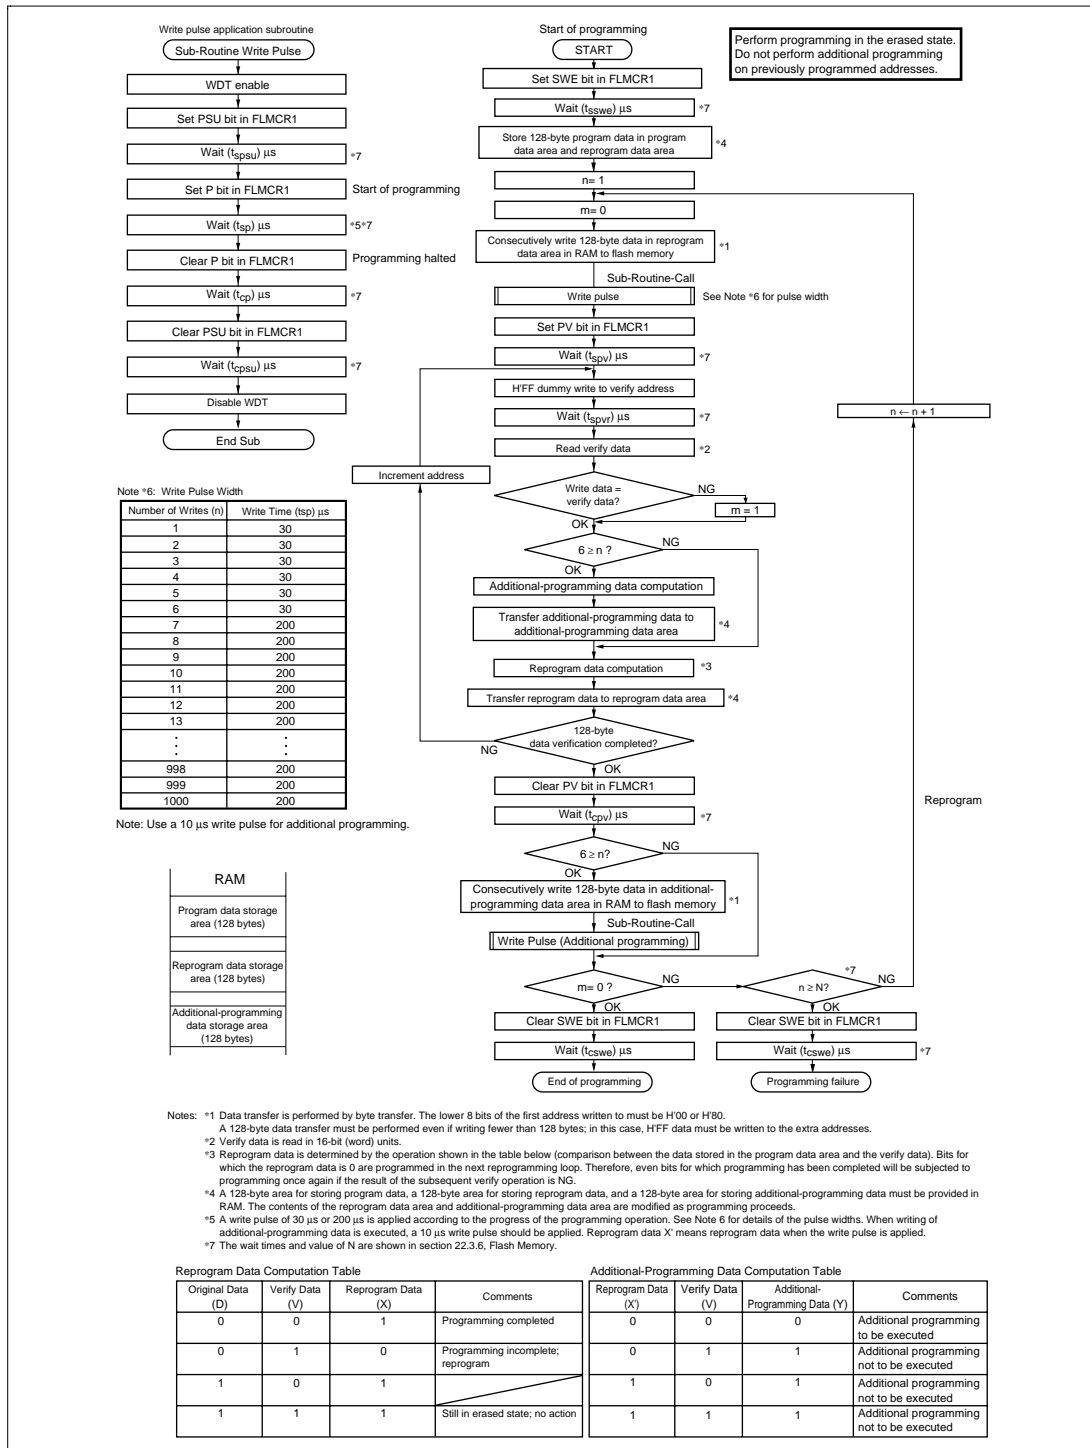

Figure 18.10 Program/Program-Verify Flowchart (128-Byte Programming)
When writing data or programs to flash memory, the program/program-verify flowchart shown in figure 18.10 should be followed. Performing programming operations according to this flowchart will enable data or programs to be written to flash memory without subjecting the device to voltage stress or sacrificing program data reliability. Programming should be carried out 128 bytes at a time.
After the elapse of the given programming time, clear the P bit in FLMCR1, then wait for at least (t_{cp}) μ s before clearing the PSU bit to exit program mode. After exiting program mode, the watchdog timer setting is also cleared. The operating mode is then switched to program-verify mode by setting the PV bit in FLMCR1. Before reading in program-verify mode, a dummy write of H'FF data should be made to the addresses to be read. The dummy write should be executed after the elapse of (t_{spv}) μ s or more. When the flash memory is read in this state (verify data is read in 16-bit units), the data at the latched address is read. Wait at least (t_{spvr}) μ s after the dummy write before performing this read operation. Next, the originally written data is compared with the verify data, and reprogram data is computed (see figure 18.10) and transferred to RAM. After verification of 128 bytes of data has been completed, exit program-verify mode, wait for at least (t_{cpv}) μ s, then clear the SWE bit in FLMCR1. If reprogramming is necessary, set program mode again, and repeat the program/program-verify sequence as before. The maximum number of repetitions of the program/program-verify sequence is indicated by the maximum programming count (N). Leave a wait time of at least (t_{cswe}) μ s after clearing SWE.
6. The program/program-verify flowchart for the H8/3064F-ZTAT B-mask version is shown in figure 18.10.